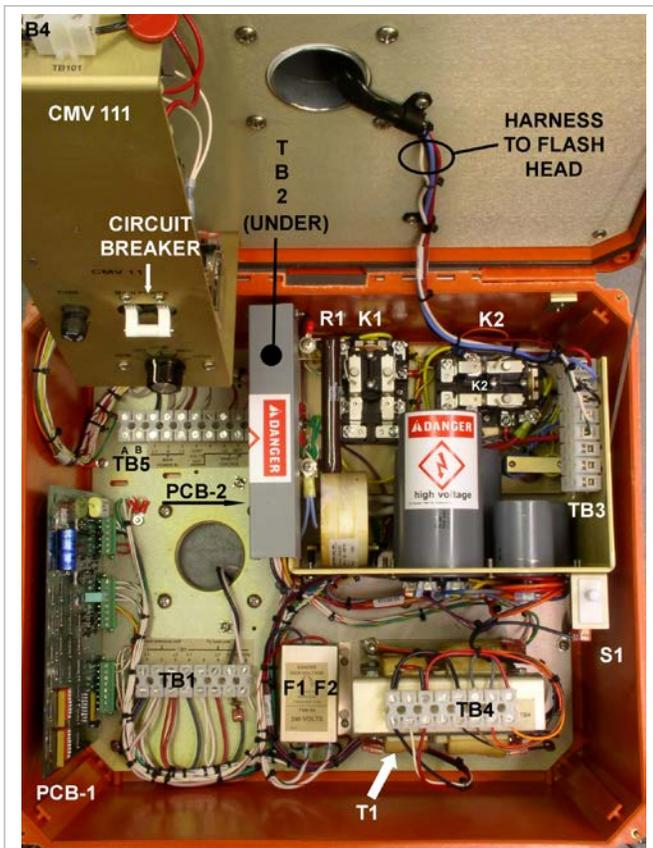
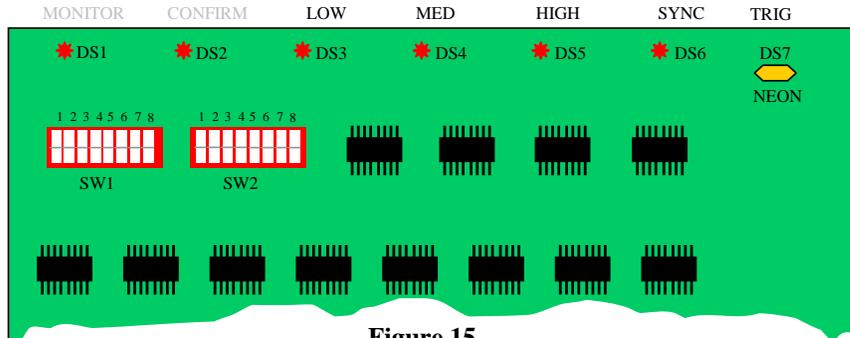

Figure 13
Figure 15
- Check screw tightness on TB1 and TB3 (8-position terminal blocks; (See Figure 13 for locations). Check every position that has a wire connection whether to external wiring or to internal circuits. You should also check TB5 in master units.
It is important to know where the major components are located, especially when attempting to follow troubleshooting procedures. Use Figures 13 and 14 for this information. A slave power supply does not have a CMV 111 Control Module; it is otherwise identical to a master power supply.
Each power supply has two circuit boards with indicator lights that can be used to interpret operating conditions. PCB-1, shown partially in Figure 15, is the timing and control circuit board. Its location is shown in Figure 13. It has six red LEDs, but only four of these apply to standard functions. DS1 and DS2, labeled Monitor and Confirm, are used only when the Monitoring option has been elected at the time of purchase. DS7 is a neon glow lamp. SW1 and SW2 are programming switches.
PCB-2 does not show in Figure 13, but its location beneath the High Voltage Guard is noted (). The neon lamps on PCB-2 are in prominent view for safety and troubleshooting. DS3 is a safety lamp. It is lit whenever the dc bank voltage exceeds about 80 volts.